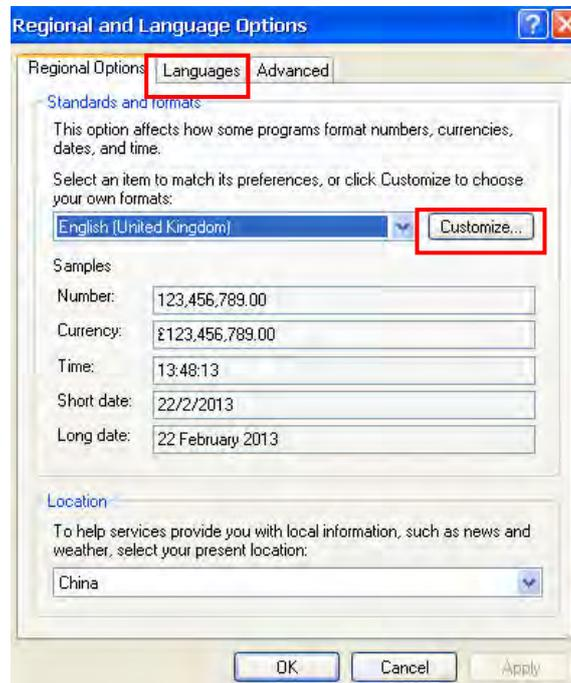

Fig. 5-5 Regional and language options screen
language in the **Language** setting. Click on **Regional and Language Options** to call up this screen (see Fig. 5-5).
**Setting the display format:** Select an element on the screen shown in Fig. 5-5, such as **English (United Kingdom)**, then click on **Customize** to bring up the settings screen. Numbers, currency, time, short date and long date can be set as required.